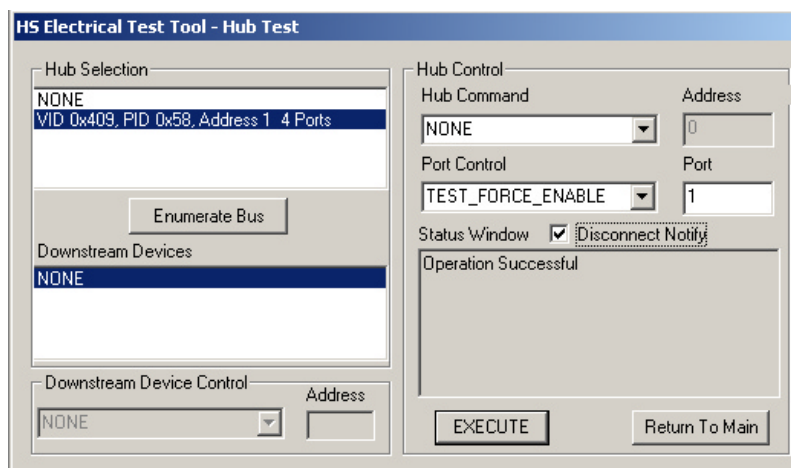

Figure 19. Enable Disconnect Notify
5. Click the Disconnect Notify check box to monitor the disconnect status in the Status Window (Figure 19)